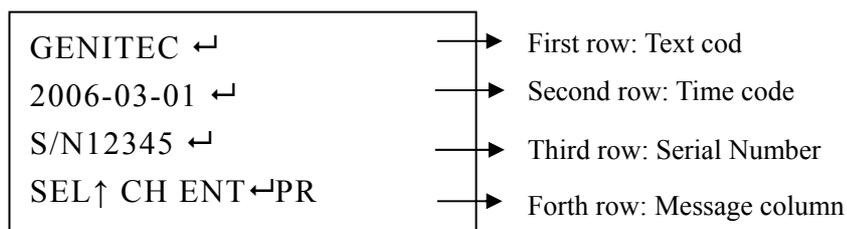

Figure 27
5. After modified the second row, press the button **ENTER** to end of the editing. (Refer to figure 27)